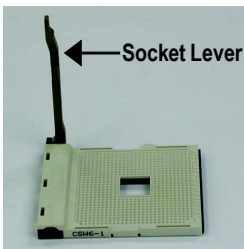

Figure 1.
Step1-1. First, check the processor pins to see that none are bent. Move the socket lever to the unlocked position as shown in Figure 1.(90° to the plane of the motherboard) prior to inserting the processor. The pin 1 location is designated on the processor by a copper triangle that matches up to a triangle on the socket as shown in Figure 2. Align the processor to the socket and gently lower it into place. Do not force the processor into the socket.